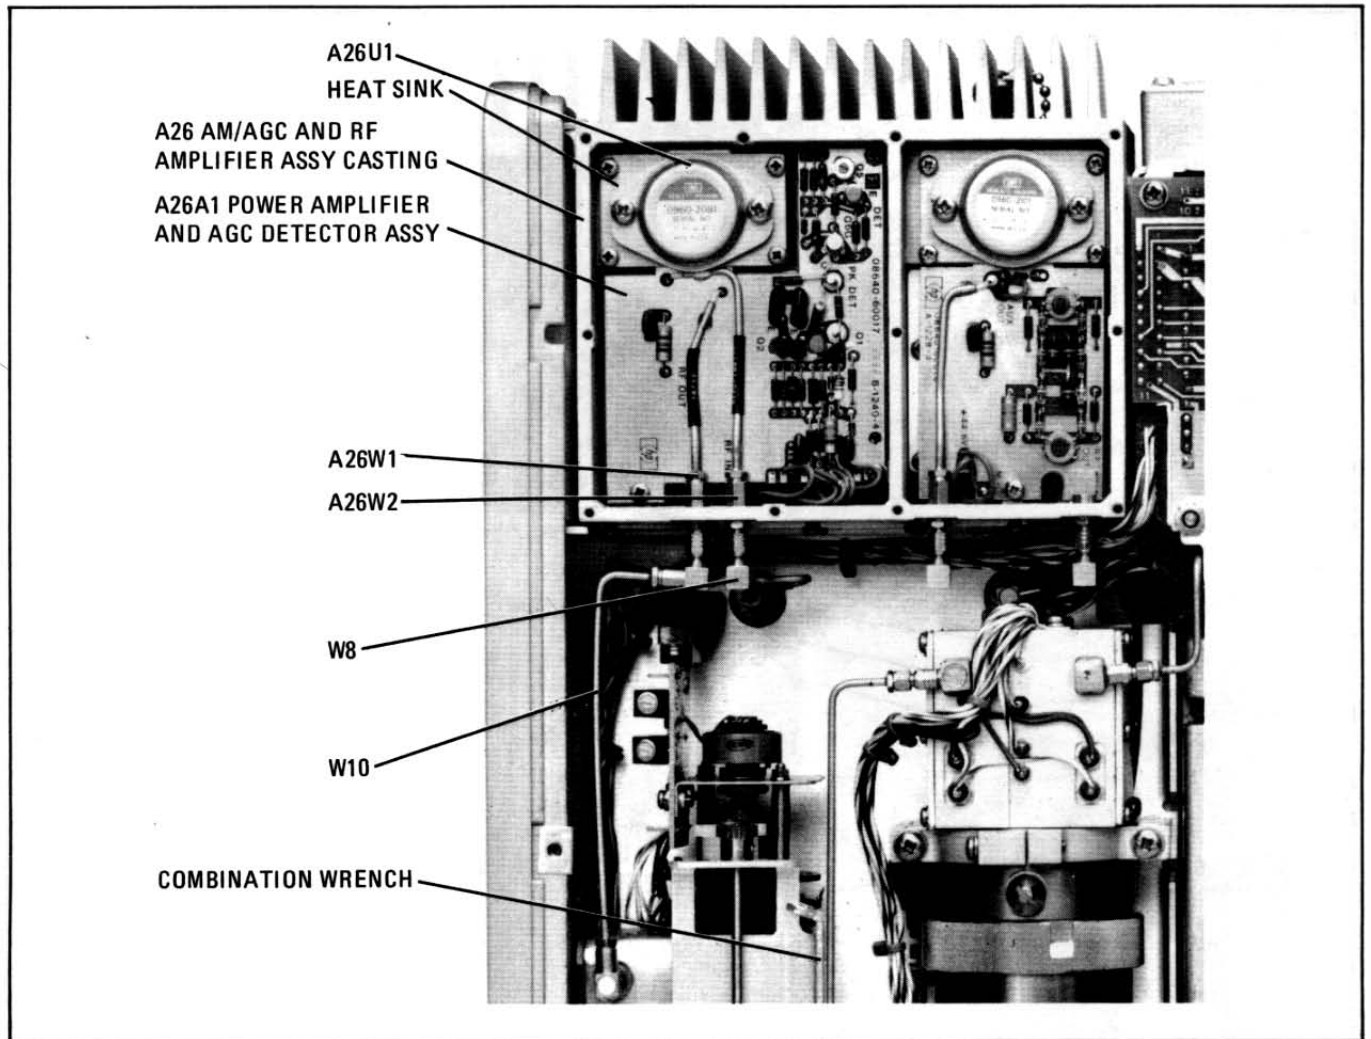

Figure 3. Bottom Internal View Without Internal Doubler (8640B shown)
10. Orient instrument with bottom facing up. Refer to Figure 3.